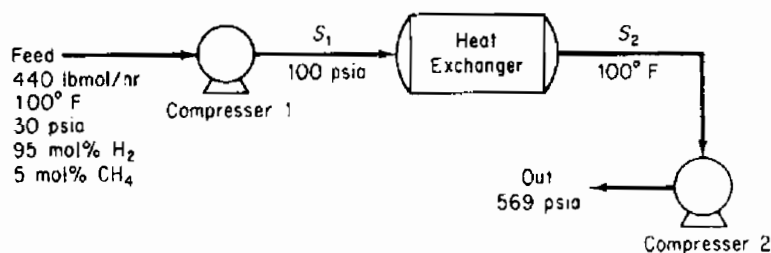

Figure P31.12
31.12 A gas consisting of 95 mol % hydrogen and 5 mol % methane at 100°F and 30 psia is to be compressed to 569 psia at a rate of 440 lb mol/hr. A two-stage compressor system has been proposed with intermediate cooling of the gas to 100°F via a heat exchanger. See Figure P31.12. The pressure drop in the heat exchanger from the inlet